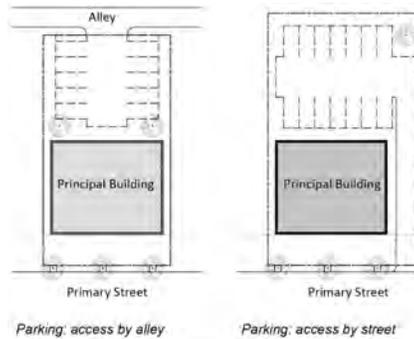

Figure 375.405.2: Parking Entrances Shall Not be Situated Adjacent to Primary Streets
(i) All parking shall be accessed from rear alleys where they exist (See Figure 375.405.2.) and/or from side streets if the lot is located on a corner in all districts except MU-CH. If no rear alley or side street exists, efforts should be made to demonstrate an attempt to gain access across neighboring properties. In MU-NE and MU-NC Districts, side parking shall be no wider than the double-loaded maximum (60 feet).
(ii) When access to rear parking must be directly from the primary street, driveways shall be located along the sides of the lot lines (See Figure 375.405.2.) and designed to meet the access driveway widths set forth in Subsection (5)(e) below.